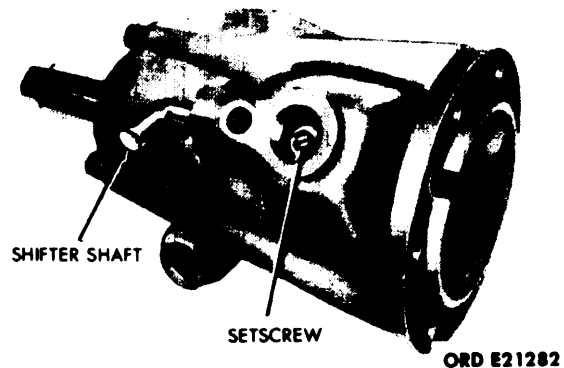

Figure 5-31. Removal of Shifter Shaft.
(2) Remove the shifter fork setscrew and remove the shifter shaft. (See fig. 5-31.)